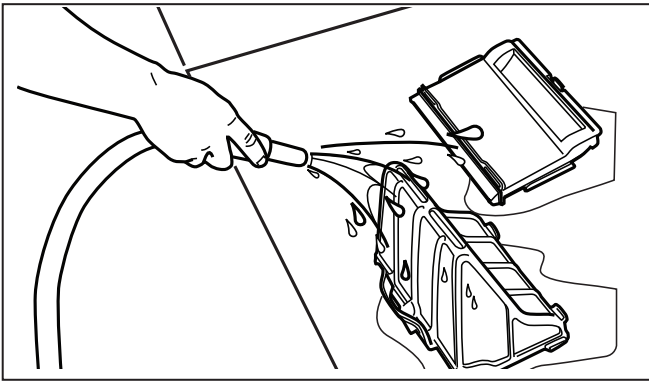

Figure 20. Rinse the Filter Canister
8. Empty all debris from the filter canister, then rinse the canister, the filter support, and the cleaner under water or using a hose (Figure 20).